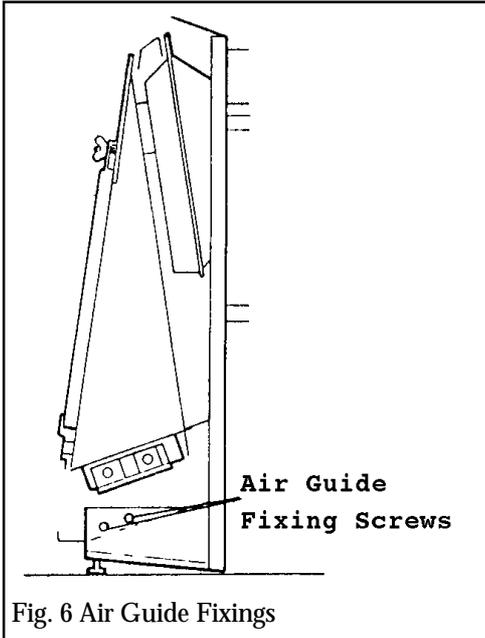

Fig. 6 Air Guide Fixings
8.1 To gain access for gas supply connection, it is necessary to remove the air guide plate located beneath the main burner. Remove the four screws holding it in place (Fig.6). The levelling screws may need to be withdrawn slightly to allow access to the front two screws.
To gain access for gas supply disconnection, it is necessary to remove the air guide plate located beneath the main burner. Remove the four screws holding it in place (see Fig. 6). The levelling screws may need to be withdrawn slightly to allow access to the front two screws.